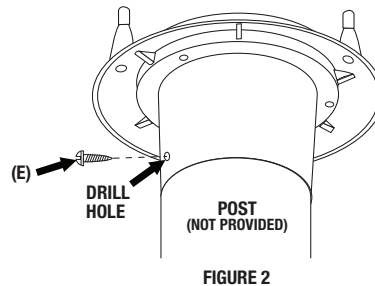

FIGURE 2
- Position Post Collar (A) over the lamp post, carefully inserting wires into the post.
- Fasten with Set Screw (E) at hole in Post Collar (A) by a drilling 1/8" diameter pilot hole at same location (Figure 2) through post. Insert and tighten screw with Phillips screwdriver.